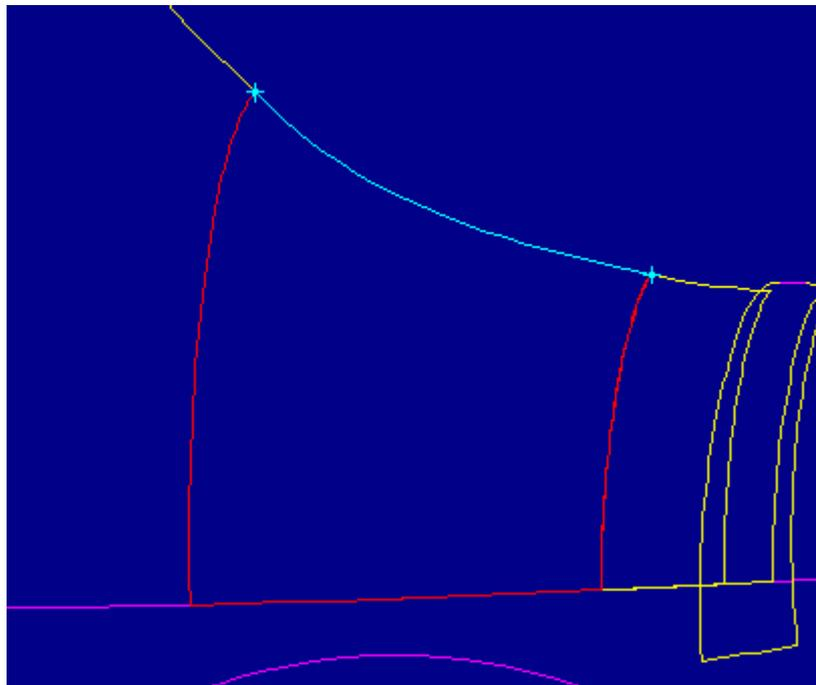

Figure 7
5. The Message Window presents the following information: "WARNING: Design intent is unclear. Use "Geom Check" menu for details." In the SEL CHAINS menu select **Geom Check**. Figure 7 shows a surface highlighted in red and an edge of that surface highlighted in cyan. In the SHOW ERRORS menu select **Item Info**. The Information Window appears with the following message: "The two highlighted surfaces are coincident for all or a portion of their geometry, including the highlighted edge. You will probably want to delete one coincident surface to avoid creating a zero volume region when surfaces are joined." What you see is not one surface highlighted in red. There are actually two surfaces right on top of each other highlighted in red, and the edge highlighted in cyan is one area of the two surfaces that coincident.